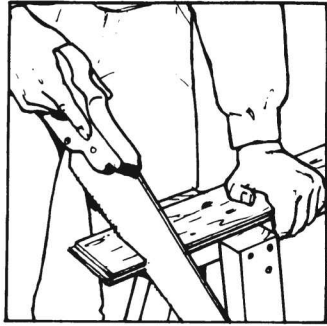

Fig. 17-84 To start a new course, saw off the tongued end. The square sawed end will fit snugly into the opposite corner. (Grossman Lumber.)
4. When cutting a piece of cedar to finish out a course or row of boards, always saw off the tongued end so that the square sawed-off end will fit snugly into the opposite corner to start the new course (Fig. 17-84).